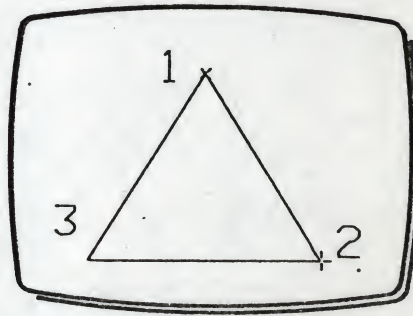

Fig 1
- 1 Move XY to move the dynamic cursor to (1) in Fig 1.